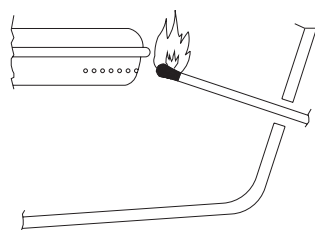

Figure 18
4. Insert a burning long wooden match through the lighter hole on either side of the grill. **See Figure 18.**